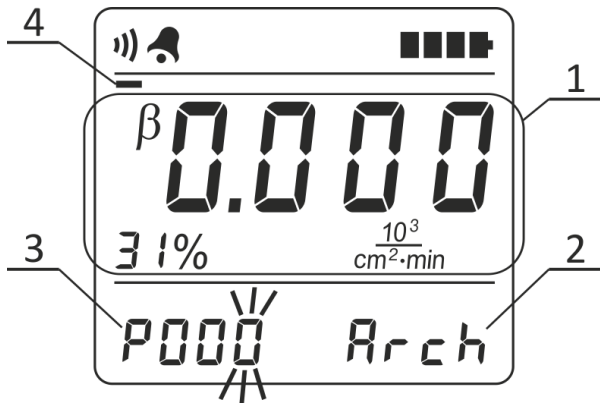

Figure 18 – LCD of the radiometer
The “Arch” symbols (2) on the LCD of the radiometer are an indication of the submode of measurement result saving (Figure 18). In this submode the LCD displays the measurement result (1) and the measurement object number (3) that will be saved in the nonvolatile memory. The nonvolatile memory status is displayed on the instantaneous value indicator (4). If the nonvolatile memory contains no data, only the first segment is highlighted on the indicator. If the memory is full, all segments are highlighted.